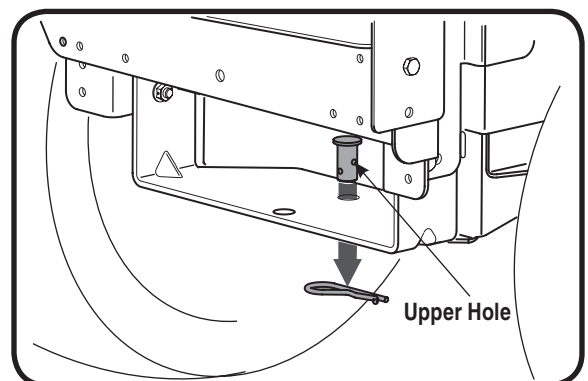

Figure 16
5. Reinsert the clevis pin through the aligned holes in both the bracket assembly and the hitch plate and secure with the hairpin clip removed earlier. See Figure 16.